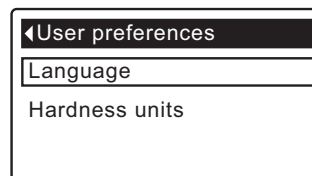

FIG. 48
3. Press the OK/MENU button to display the User preferences menu (See Figure 48).
7. Press the OK/MENU button. The display will go back to the User preferences menu (Figure 48).